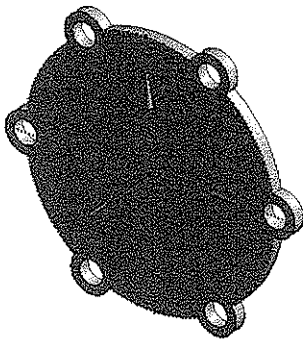

Figure 4-59 The new plane generated
- 6. Choose the **Generate** tool from the **Features** toolbar; the new plane is created on the front face of the model, refer to Figure 4-59.